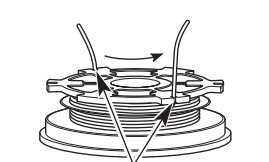

Fig. 18
- Insert the two 6-inch sections into the two .095 holding slots (Fig. 18).